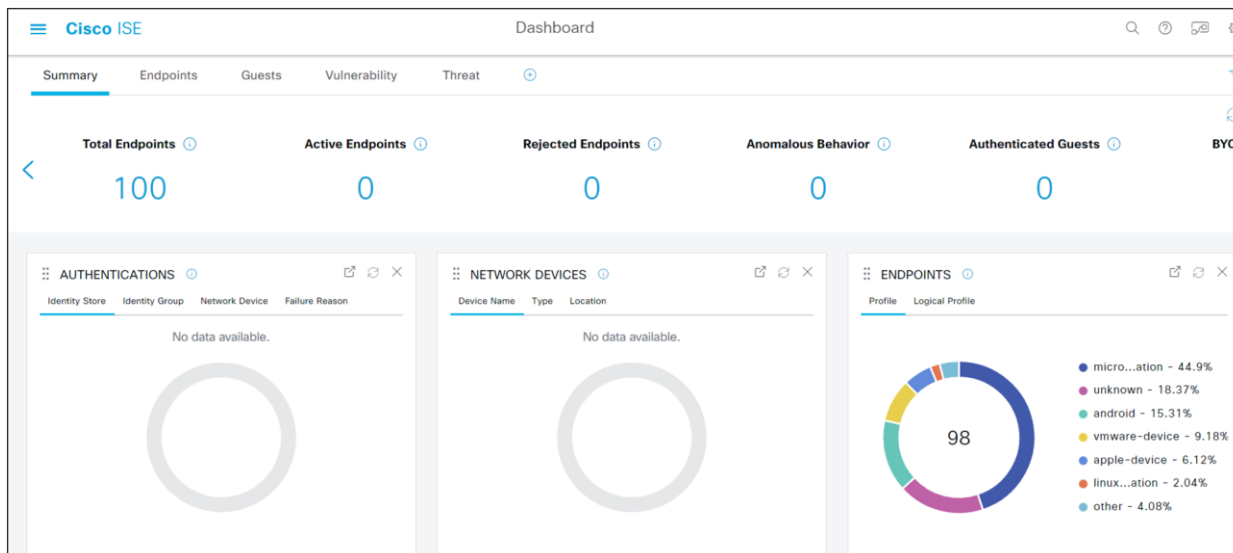

Figure 10.
1. Log in to ISE. Figure 10 shows the ISE summary after successful login.